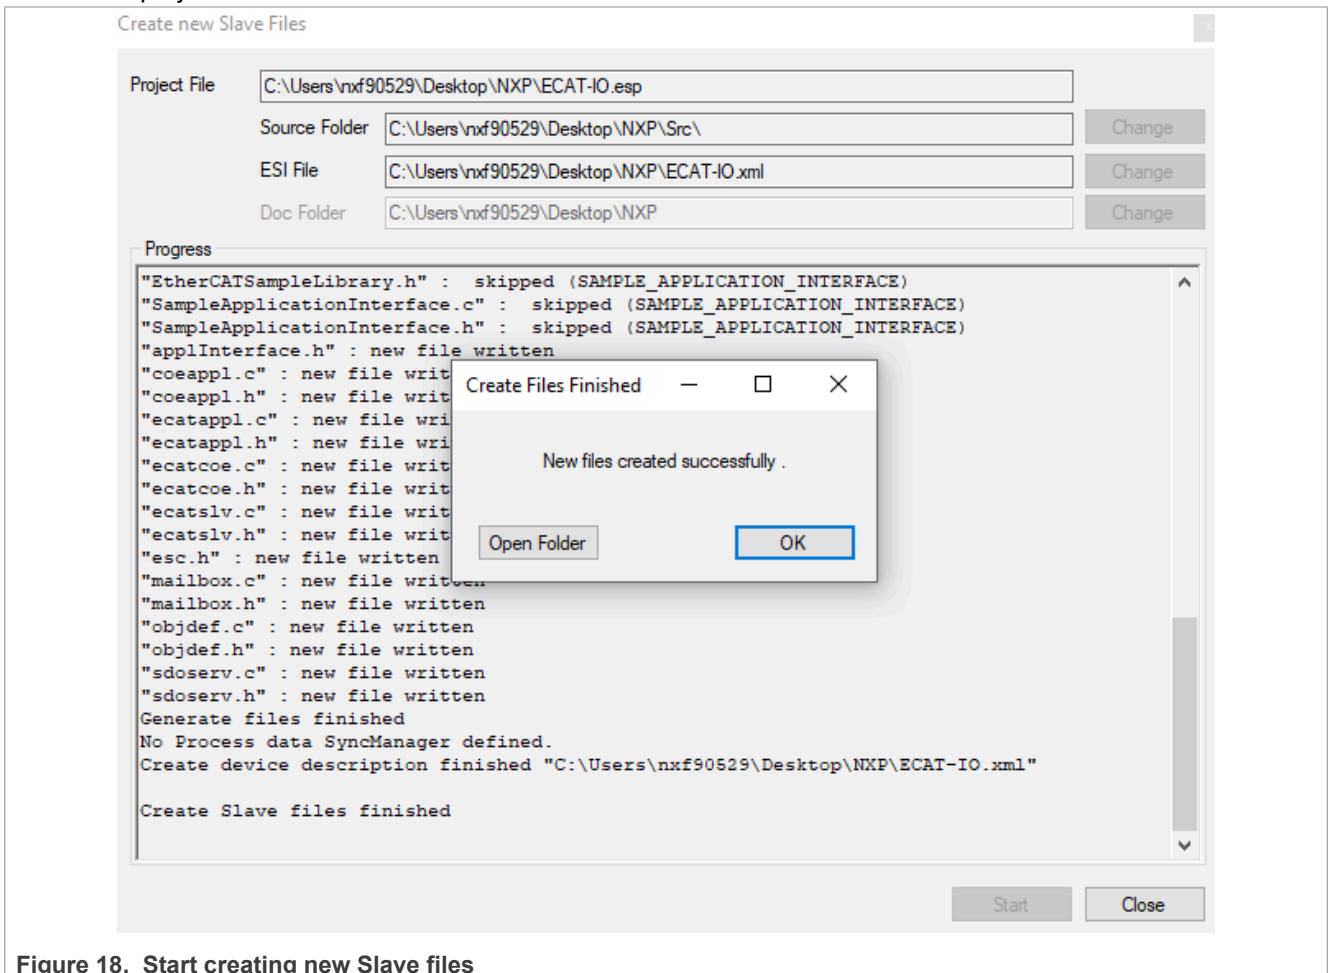

Figure 18. Start creating new Slave files
- Click **Start**. A new project file is created, as shown in Figure 18. XML file and src folder can be found in the related project folder.